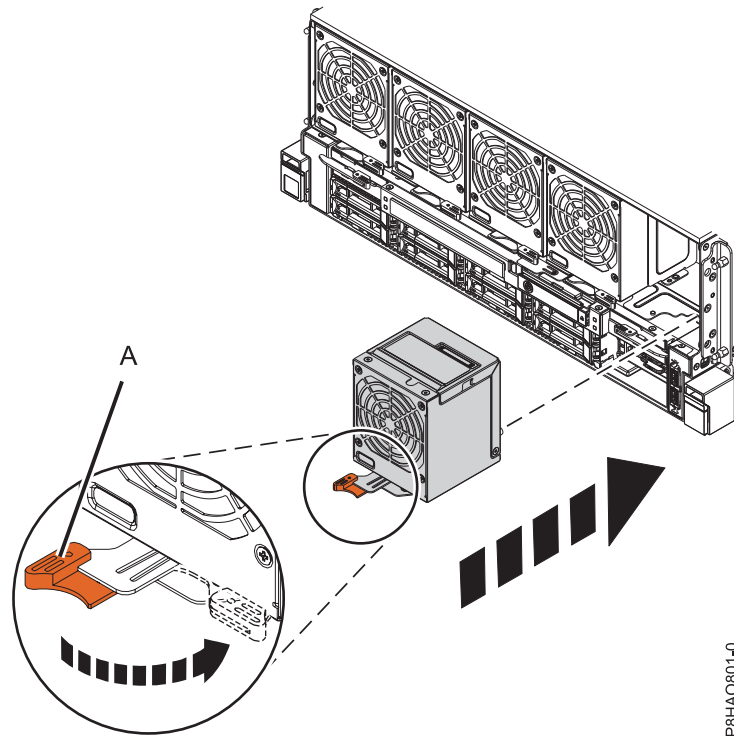

Figure 3. Replacing a front fan in the system
2. Ensure that the fan handle (A) is opened as shown in Figure 3 on page 5.
3. Using your hand to support the bottom of the fan, align the fan with the fan slot and slide it into the system. See Figure 3.
4. Rotate the fan handle (A) in the direction shown, and then press the fan handle until the latch locks in place. See Figure 3.